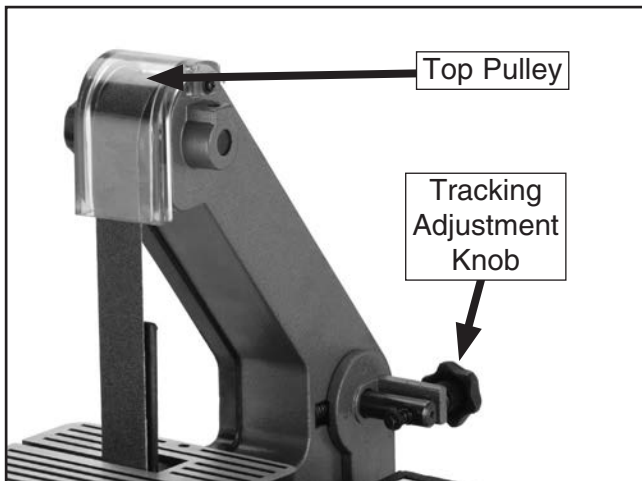

Figure 12. Sanding belt tracking adjustment.
5. Observe the sanding belt as it moves over the top pulley (see **Figure 12**).